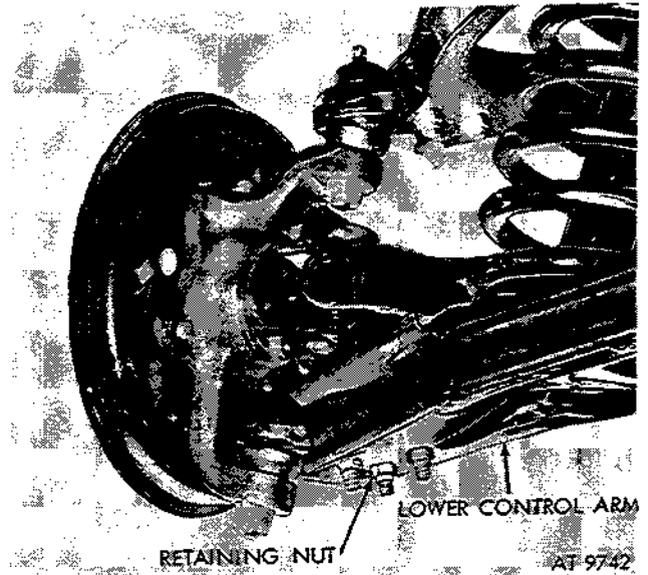

Figure 2-316. Remove retaining nuts and bolts from lower control arm.
- (5) Remove three ball joint retaining nuts and bolts from lower control arm (fig. 2-316).
- (1) Raise vehicle and position support under lower suspension arm.
- (2) Disconnect lower end of shock absorber (para 2-144).
- (3) Disconnect wheel drive shaft (para 2-132).
- (4) Remove three bolts and nuts securing lower ball joint to suspension arm (fig. 2-316).
- (5) Lower suspension down and remove coil spring.